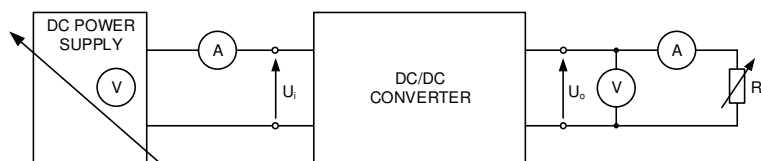

Fig. 11. Measurement setup.
2. Assemble the measurement setup as in Fig. 11. Pay attention for polarization of input voltage and check if the circuit is working properly for nominal input voltage and highest possible R_0 .
4. Connect the DC power supply to the regulator input and adjust the load in series with the ampermeter. Connect voltmeters to the input (can be used the internal one in power supply) and output (Fig. 11).